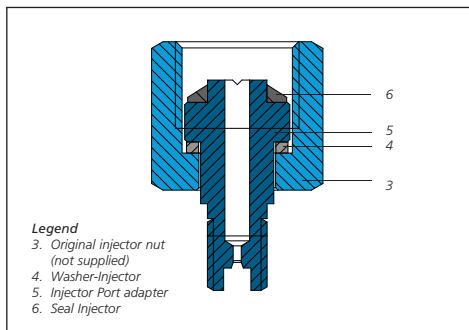

Figure 2. Image of the Injector showing the SilTite™ FingerTite injector adapter assembly
5. Locate the SilTite™ FingerTite Injection Port adapter (5), washer (4) and seal (6) and assemble as displayed in the Figure 2. Insert the Injection Port adapter (5) into the base of the injector and tighten the nut (3) clockwise until the fitting is firm.